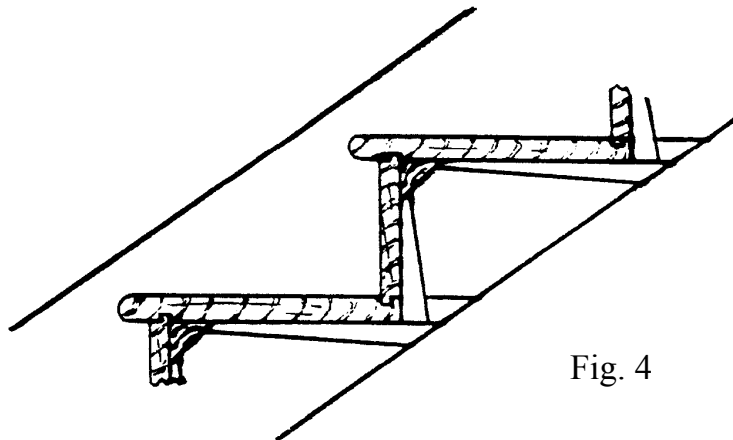

Fig. 4
15. (a) Indicate on Figure 4, the following terms associated with stair construction.